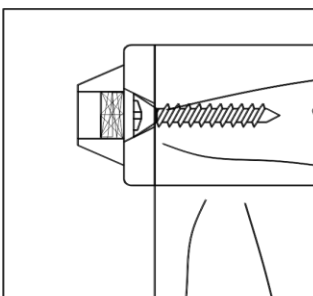

Figure 1
- Use a 3/32" drill bit to drill pilot holes into the furniture item at the "screw marks". Use the TWO short screws to secure the furniture-side bracket. This bracket can be positioned either vertically or horizontal as necessary (See Figure 1).